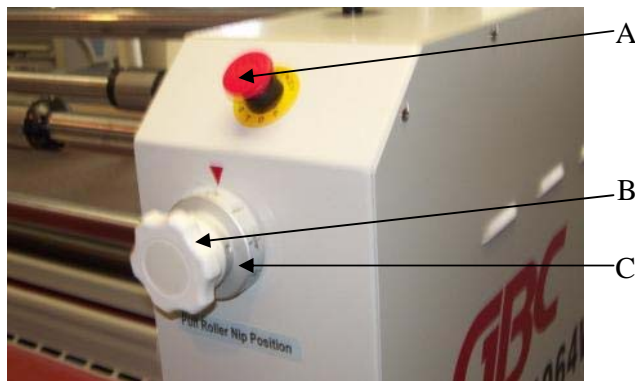

Figure 1
A. Emergency Stop buttons: (Fig. 1 - Item A)
B. Nip Roller Shim Dial: (Fig. 1-Item B)
C. Nip Roller Shim Indicator: (Fig. 1-Item C)